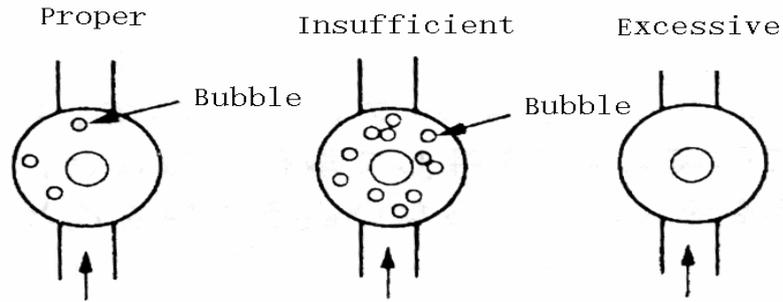

Fig. 18-1
- ① Start the engine.
- ② Turn the blower switch to 'HI'. Turn on the A/C switch, and set the temperature control to MAX COOL.
- ③ Keep the engine speed of 1800r/min.
- ④ Check the refrigerant condition (bubble state) through the sight glass. Refer to Fig. 18-1 and Table 18-7.
- ⑤ Charge refrigerant as insufficient, and take back refrigerant as excessive.